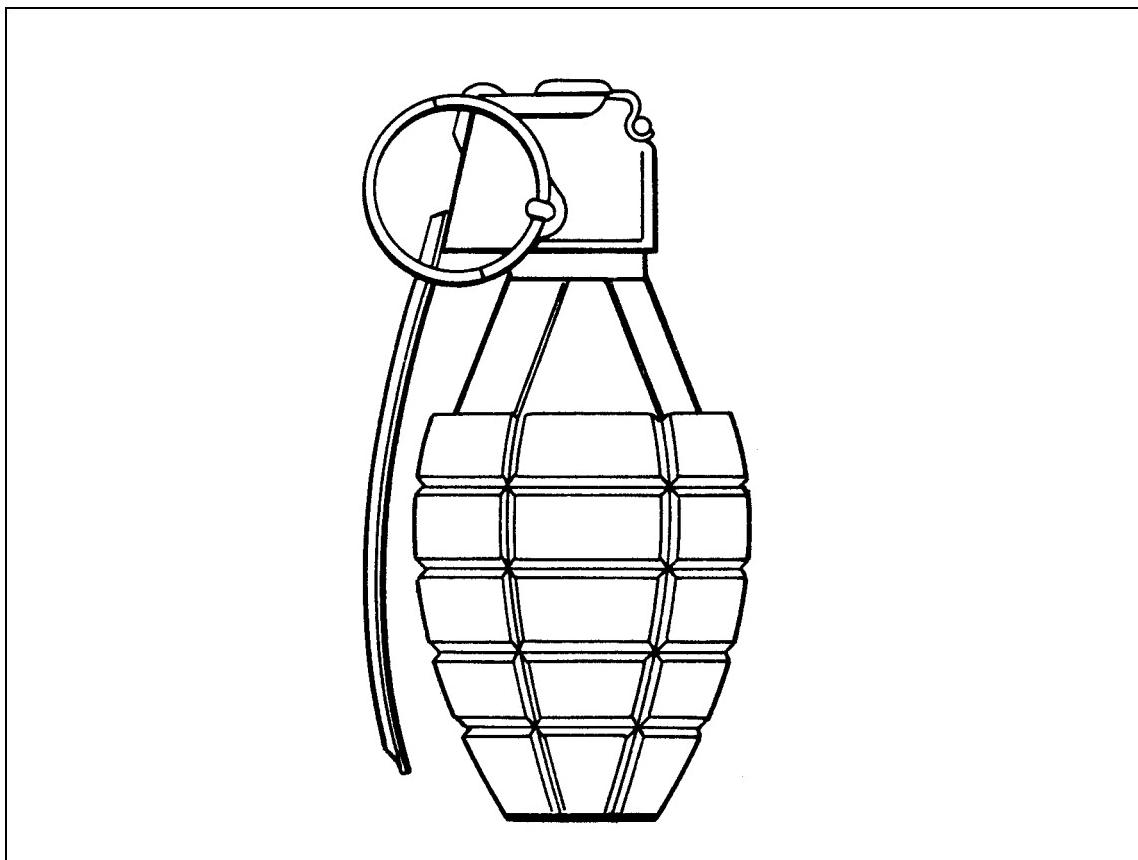

Figure F-3. Mark 2 fragmentation hand grenade.
- Type: Fragmentation. (Figure F-3)